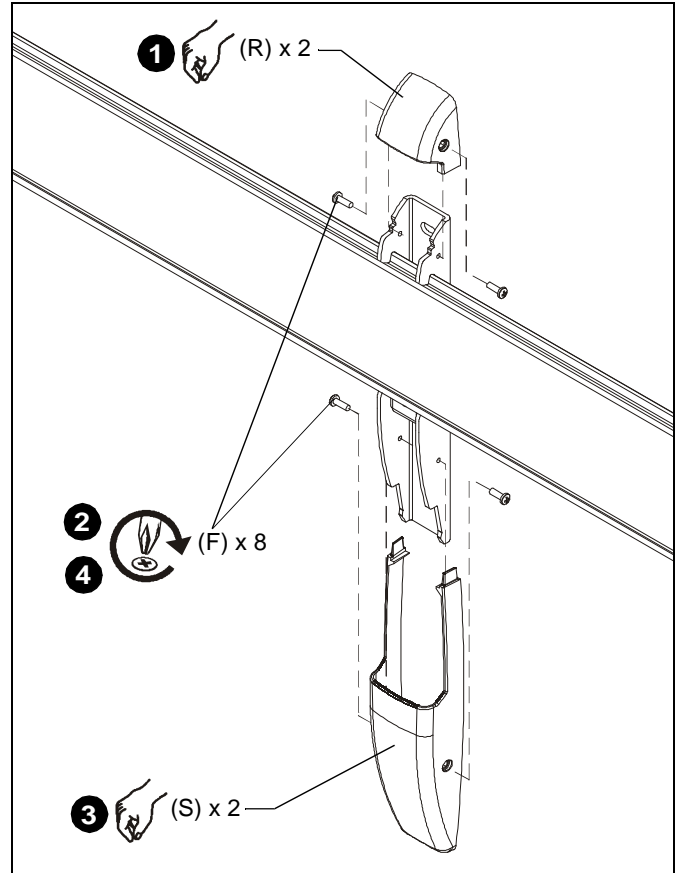

Figure 13
1. Place wall mount top caps (R) over top of two wall brackets. (See Figure 13)
2. Secure wall mount top caps (R) to wall bracket by installing four #8-32 x 1/2" Phillips pan machine screws (F) through holes in covers and wall bracket. (See Figure 13)
3. Place wall mount bottom caps (S) over bottom of each wall bracket. (See Figure 13)
4. Secure wall mount bottom caps (S) to wall brackets by installing four #8-32 x 1/2" Phillips pan machine screws (F) through holes in covers and wall bracket. (See Figure 13)